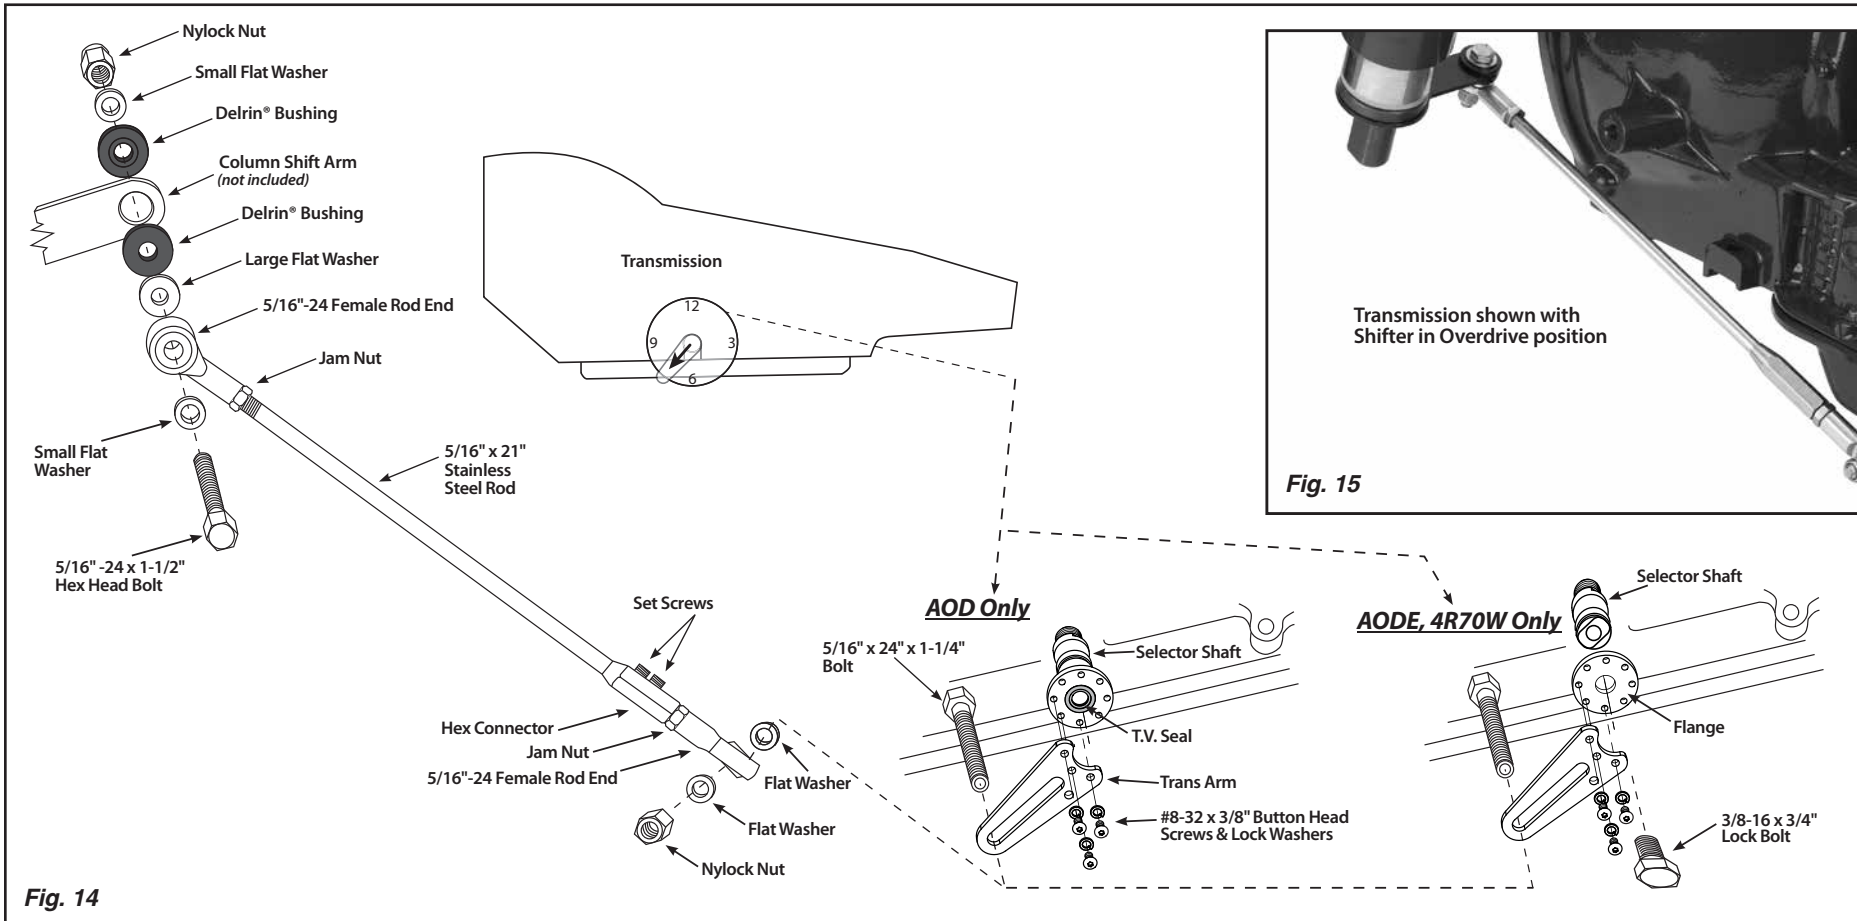

Fig. 14
Attach the 5/16"-24 female rod end to the column shift arm with the 5/16"-24 x 1-1/2" hex head bolt. Install a small flat washer onto the bolt first, and then slide on the female rod end. Next install the large diameter flat washer, and one Delrin® bushing facing the proper direction. Insert the bolt through the column shift arm, and then install the other Delrin® bushing and small flat washer. Secure it all using the 5/16"-24 nylock nut as shown in **Fig. 14**.
Step 19: Slide the hex connector with the second 5/16"-24 female rod end onto the end of the stainless steel rod. Attach the rod end to the trans arm with the 5/16"-24 x 1-1/4" hex head bolt, two flat washers, and nylock nut as shown in **Fig. 14**. Tighten the set screws in the hex connector using a 1/8" hex wrench, but only enough to mark the stainless steel rod and hold the hex connector in place during the adjustment procedure.